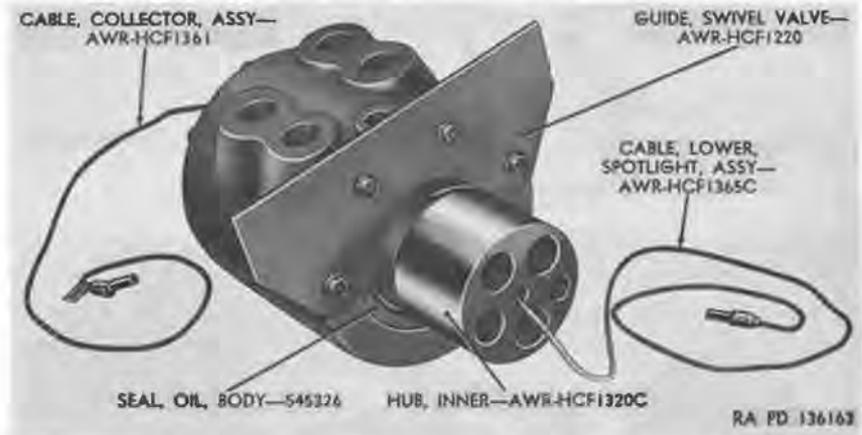
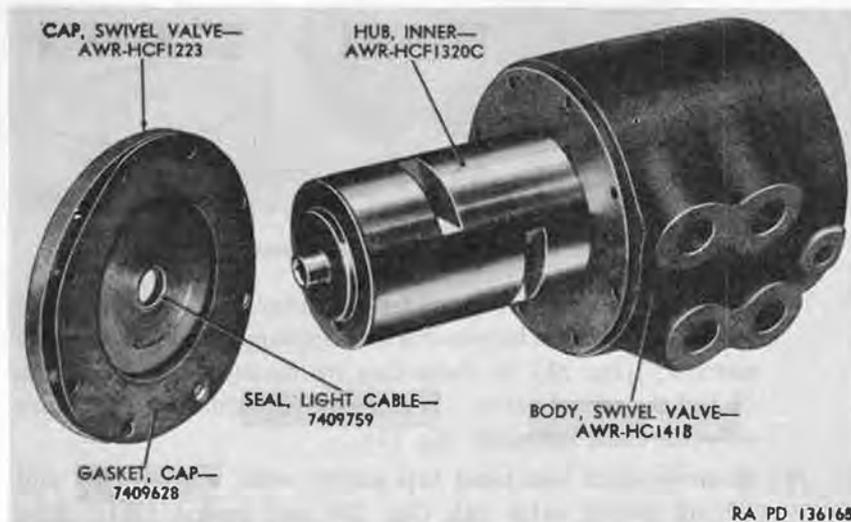

Figure 11. Swivel valve with cable assembly.
Figure 13. Cap and inner hub removed from swivel valve body.
*a. General.* Although the swivel valve (fig. 11) is one of the most essential units furnished with the wrecker crane, it is one of the most
valve to the spotlight mounted on crane. When cap is removed, it will then be possible to remove spotlight lower cable assembly (fig. 11) by threading up through the inner hub (L) of the swivel valve. If collector cap is defective, remove collector cable assembly (fig. 11).
- (2) Remove eight hex head cap screws with washer (F) and lift off swivel valve cap (fig. 13) and gasket (K). Also remove four hex head cap screws or washer (Q) and swivel valve guide (fig. 11) from base of swivel valve. With these parts removed, the inner hub (fig. 13) may be removed. The inner hub (L) must be removed from the top of the swivel valve, since the openings in the inner hub will cut against the body oil seal (fig. 11) in the base of the swivel valve body (N) if the hub is removed from the bottom.